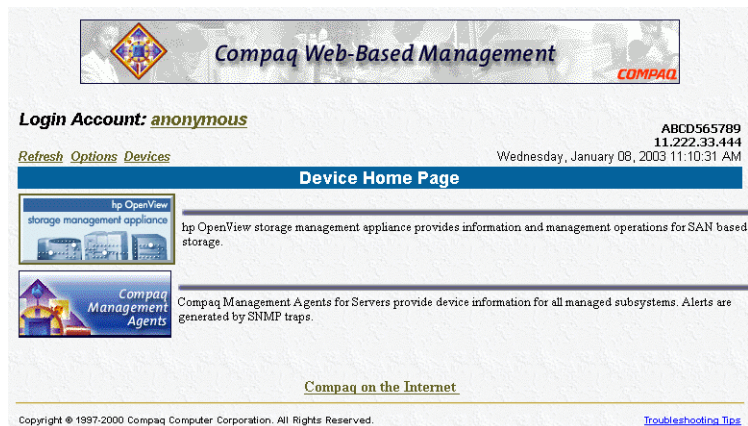

Figure 20: SMA Device Home page
1. From a client computer, start your Internet browser and navigate to the SMA URL. The Device Home Page appears (Figure 20) and indicates successful connection to the SAN.